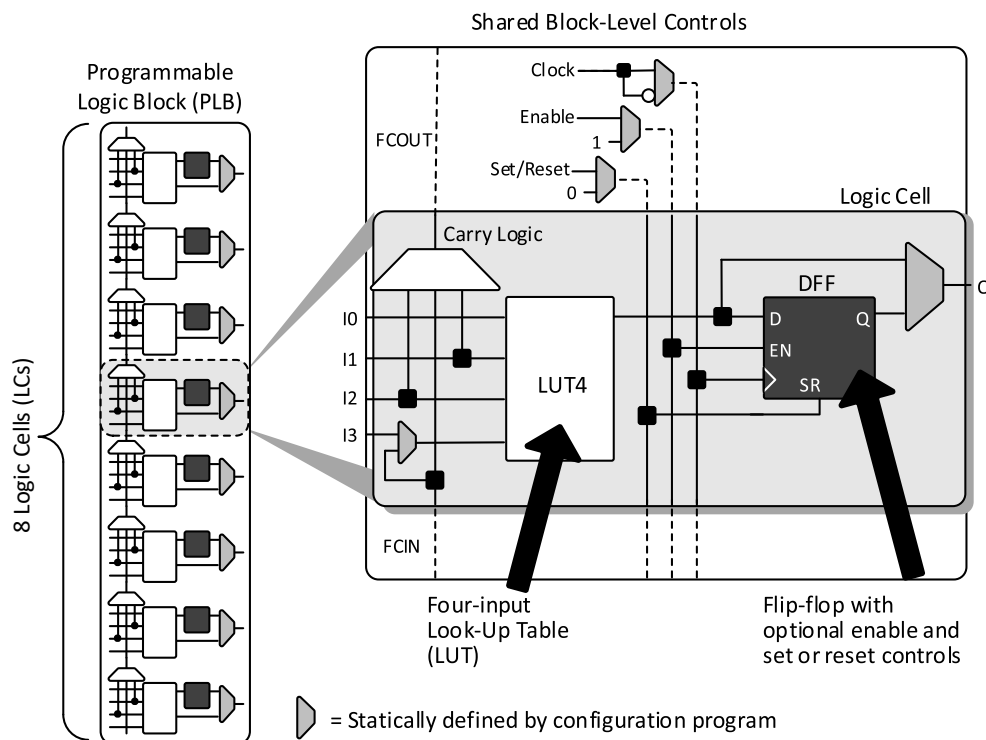

Figure 3.2. PLB Block Diagram
The core of the iCE40 LP/HX device consists of Programmable Logic Blocks (PLB) which can be programmed to perform logic and arithmetic functions. Each PLB consists of eight interconnected Logic Cells (LC) as shown in Figure 3.2. Each LC contains one LUT and one register.
Each Logic Cell includes three primary logic elements shown in Figure 3.2.